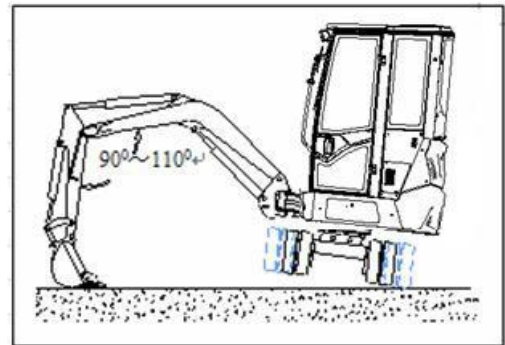

FIG. 4.4.5
- 5) If the excavator can't travel for getting into miriness, you can extend arm and place bucket to ground to lift one side of crawler, then turn the lifted crawler to clean out the bedload. In order to reduce the force enduring of boom and arm, the angle between boom and arm should be in the range of 90°--110° (FIG. 4.4.5).